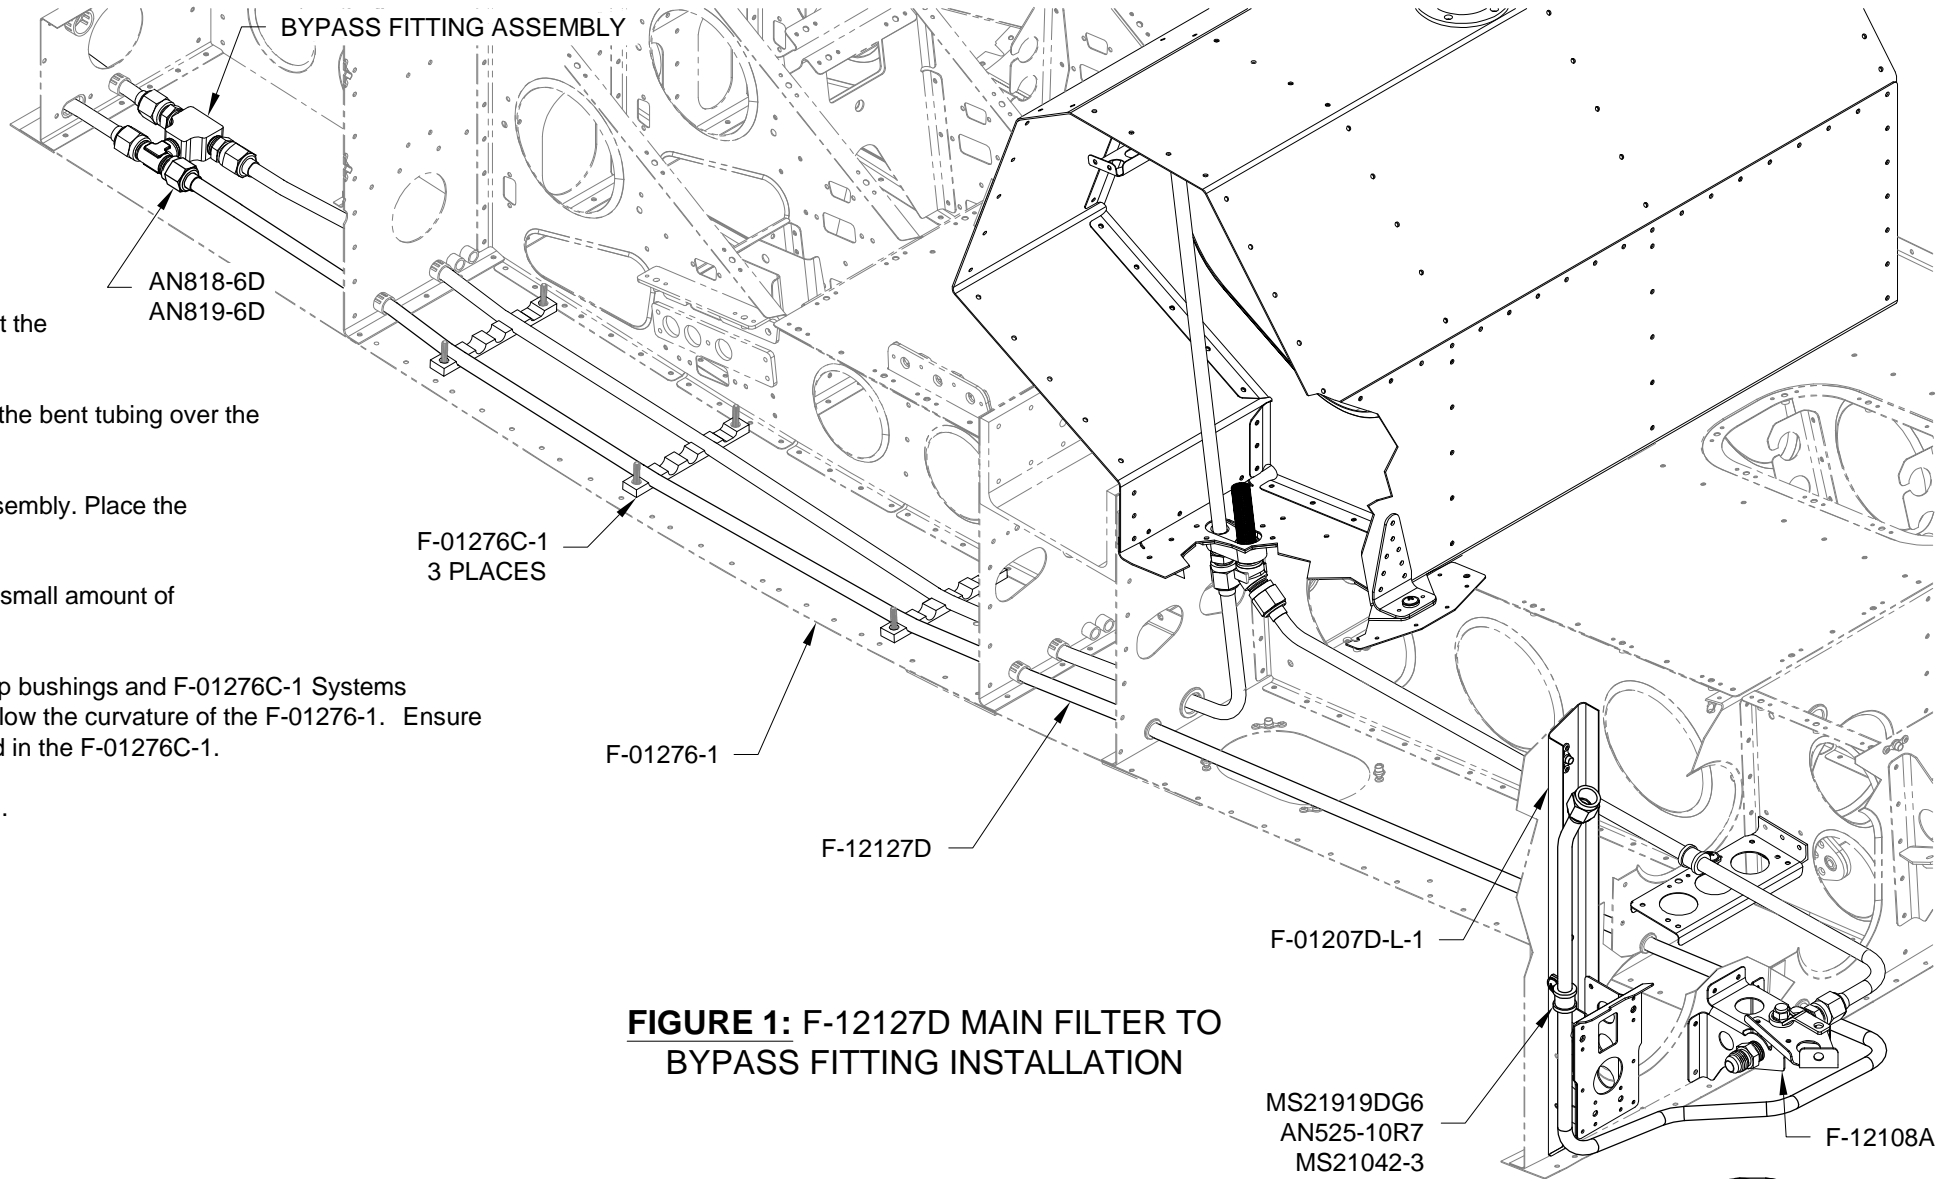

FIGURE 1: F-12127D MAIN FILTER TO BYPASS FITTING INSTALLATION
Step 6: Attach the F-12127D to the F-01207D-L-1 with hardware called out in Figure 1.